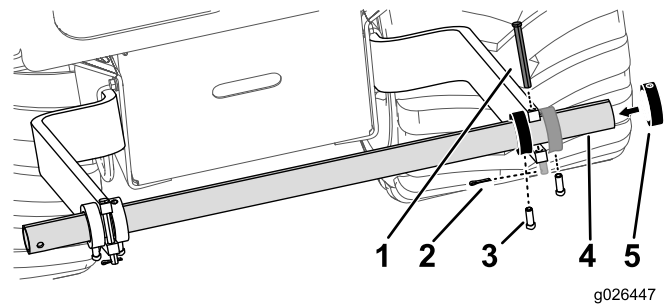

Figure 2
2. Install the 2 stop collars on the reel-carrier pipe, and place the pipe on the reel-carrier bracket so that the stop collars are on the inside of the bracket guide (Figure 2).
3. Install the 2 outside stop collars on the reel-carrier pipe, and secure the stop collars with 4 set screws (3/8 inch) as shown in Figure 2.
4. Insert the 2 clevis pins to lock in the reel carrier pipe and secure them with the 2 cotter pins (Figure 2).